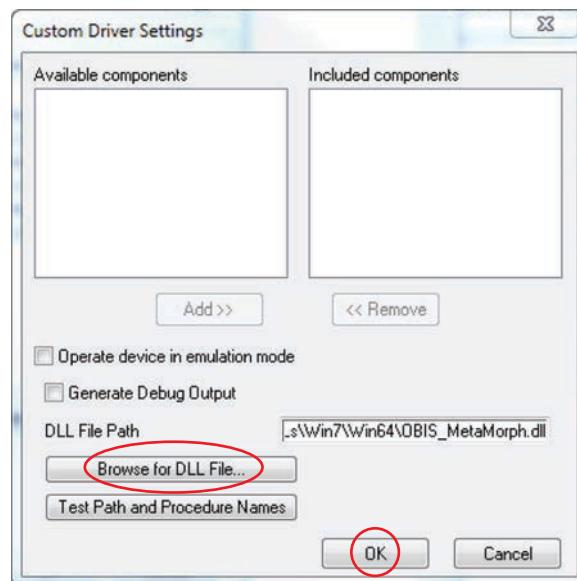

Figure H-13. Browse for DLL File
8. Click the Browse for DLL file button, as shown in Figure H-13.